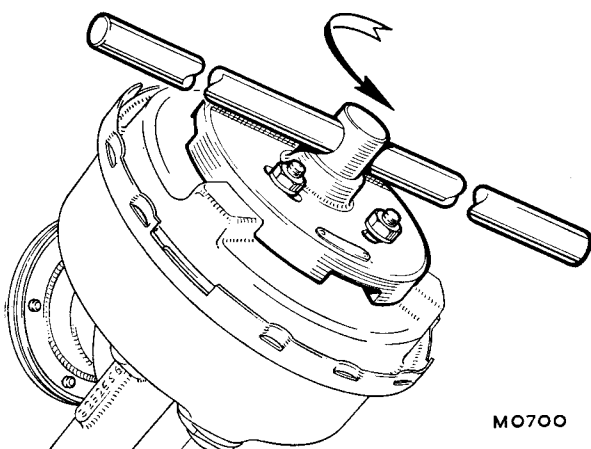

Fig. Mb.3
- (9) Use thumb pressure to prise the non-return valve from the servo shell and extract the rubber valve mounting.
- (10) To remove the end cover from the servo shell, locate Service tool C 2030* over the three studs and secure tightly with suitable nuts (see Fig. Mb.3). Turn the removal tool anti-clockwise with a ½ in. (13 mm.) square drive socket 'T' bar as far as the stops on the cover will allow and lift off the cover.
- (11) Turn the diaphragm support so that the push-rod retaining key faces downwards. Apply light fluctuating hand pressure on the support into the shell; this will allow the retaining key to drop out, releasing the support from the push-rod under pressure of the main return spring. Extract the spring from the servo shell.
- (12) Bend back the locking tabs of the servo shell to slave cylinder securing bolts; remove the bolts, together with the locking and abutment plates. Lift off the servo shell and retrieve the joint washer from the mounting face of the slave cylinder.
- (19) Smear the outer edge of the rubber diaphragm with Lockheed Disc Brake Lubricant where it will contact the rim of the end cover and of the shell, and position the diaphragm evenly around the rim of the shell.
- (20) Refit and secure Service tool C2030* to the end cover (see Fig. Mb.3). Position the end cover with the shell so that the elbow will be in alignment with the air valve. Whilst maintaining a downward pressure on the cover, turn it clockwise as far as the stops will allow, taking care not to trap the edge of the rubber diaphragm. Remove the Service tool.
- (21) Push in the non-return valve with its rubber mounting.